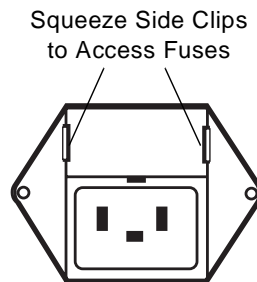

Figure 3-8 Fuse Block
2. Locate the fuse block above the power cord plug (Figure 3-8) on the rear panel.